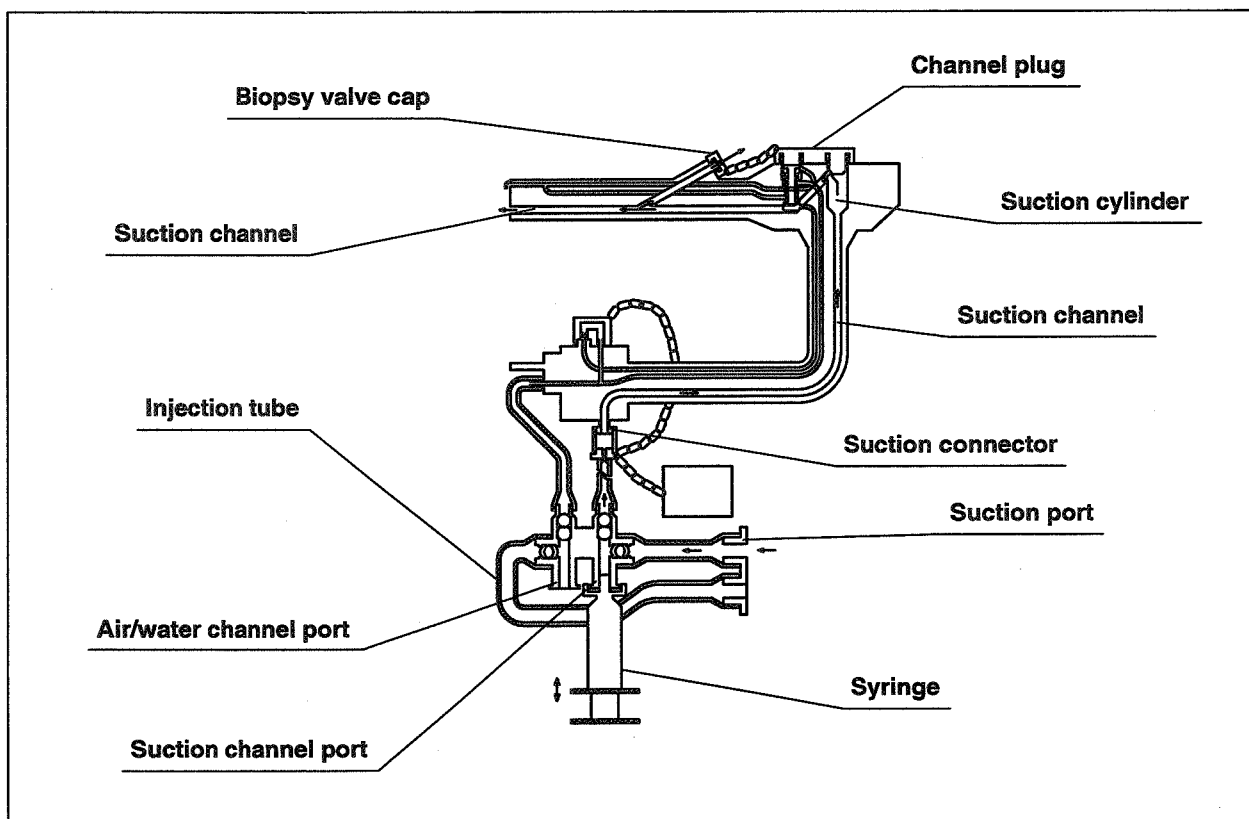

Figure 3.25
3. Attach the 30 cm³ (30 ml) syringe to the suction channel port and inject 90 cm³ (90 ml) of clean water into the suction channel (see Figure 3.25).
7. Attach the 30 cm³ (30 ml) syringe to the suction channel port and flush the suction channel with 90 cm³ (90 ml) of air (see Figure 3.25).